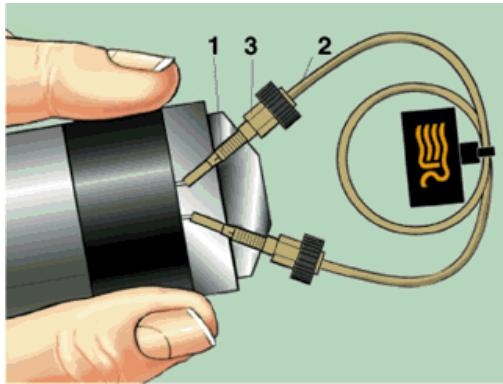

Figure 2. Cut-away view of PEEK sample loop installation.
PEEK loop installation requires steps a-c in the stainless steel section above. Fingertightening of PEEK fittings is adequate to make a leak-free connection. The slotted backside of the ferrule (1) is squeezed down onto the tube (2) by the mating conical surface in the nut (3). See Figure 2. The nut and ferrule can both be reused many times. Unlike ordinary fittings, the unique RheFlex PEEK design, specifically the angles and surface contacts between the ferrule and nut, prevents the nut from gripping the ferrule and twisting both the ferrule and the tube during tightening. Otherwise, such twisting stresses the PEEK tubing and lowers the pressure rating of the tubing.